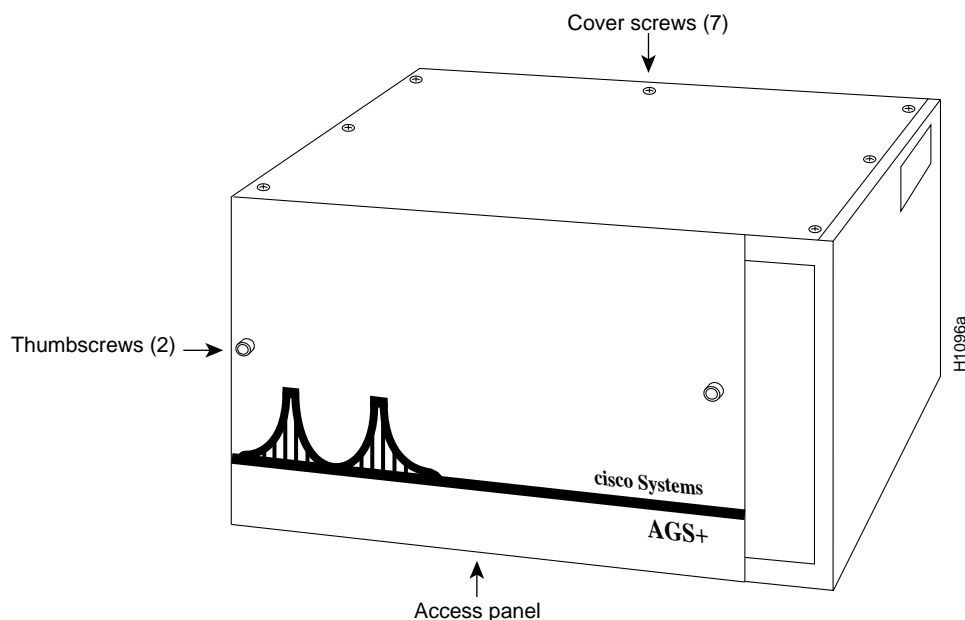

Figure 1 Front and Top Panels on the AGS+ Chassis
Step 2 Remove the chassis' front access panel and set it aside (see Figure 1).